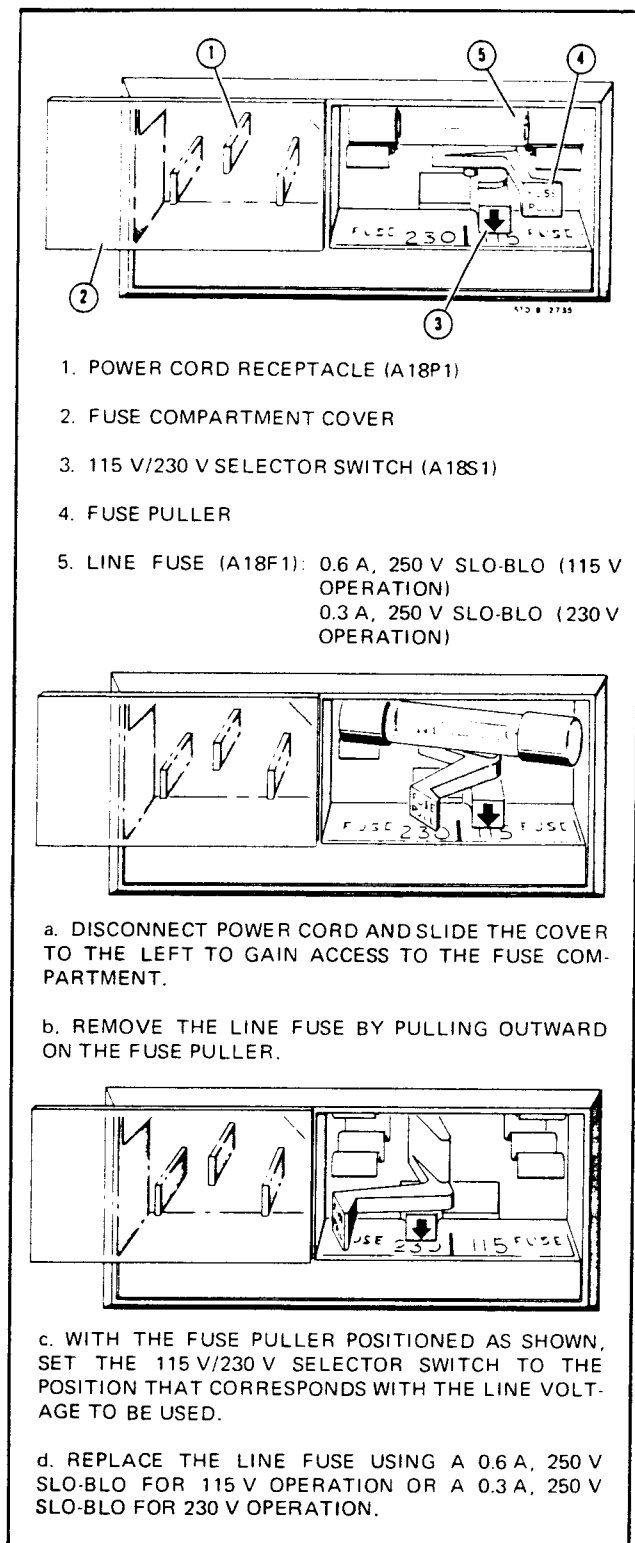

Figure 3-5. Power Input Module A, B and C.
- 17** Power Input Module (A18): Accepts power cord supplied with the instrument. Contains line fuse and 115 V/230 V selector switch (See Figure 3-5).
- a. Refer to Figure 3-5 and perform the following: